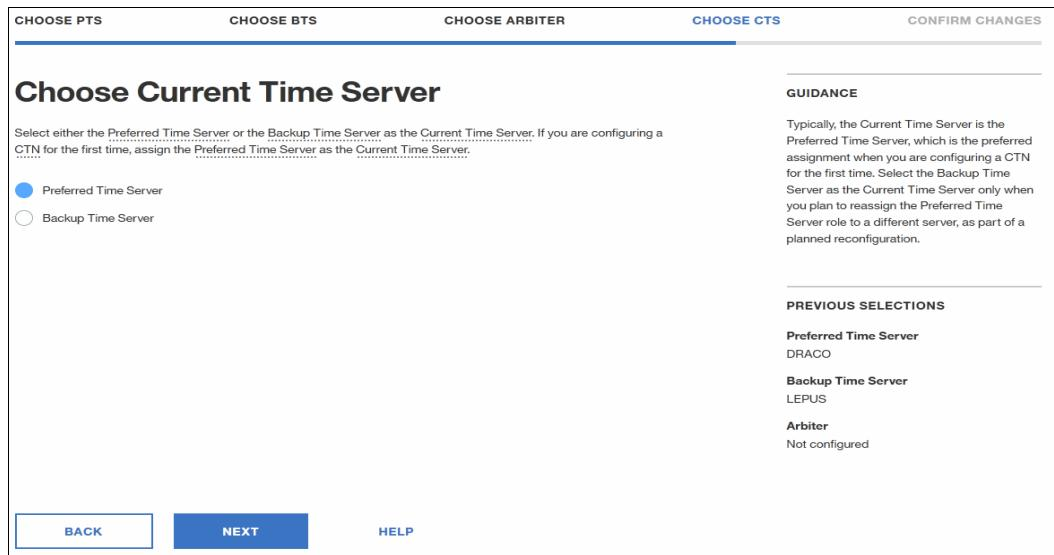

Figure 8-64 Choose Current Time Server
5. The **Choose Current Time Server** window opens. Select the CPC name to act as the CTS. Click **NEXT** to continue (Figure 8-64).